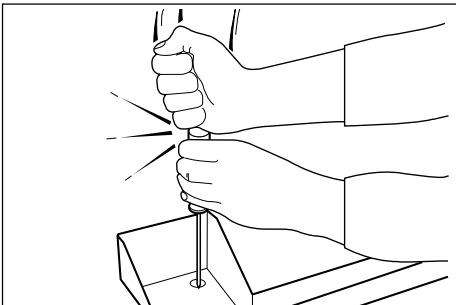

Fig. 8
- Remove the plug in the drip tray by carefully punching the plug out (Fig. 8) ; make sure the hole is aligned with the drip funnel.